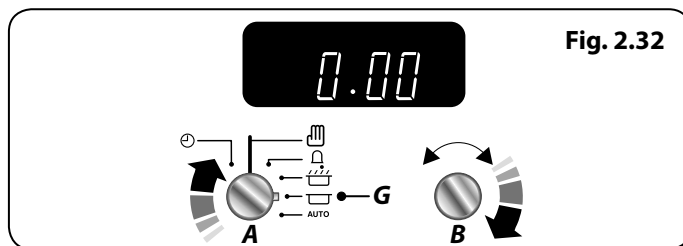

Fig. 2.32
1. Turn the **Timer (A)** knob to the **Stop Time (G)** setting (**Fig. 2.32**).